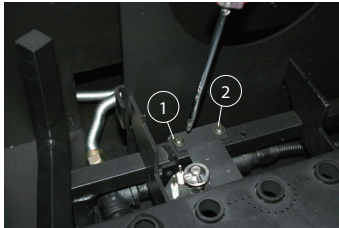

Figure 20. (Pilot mounting machine screws).
**Step 2.** Remove the two (2) machine screws that hold the Pilot Assembly in place, **Figure 20. (Philips head screwdriver required).**
**Step 1 & 2. Figure 20. (Pilot mounting machine screws).**